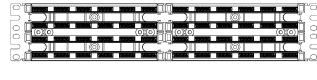

Fig. 1
1. Use appropriate mounting hardware to install base on desired surface as shown in Fig. 1, 3/4" plywood is recommended. (Tip: PANDUIT lettering should be upright.)